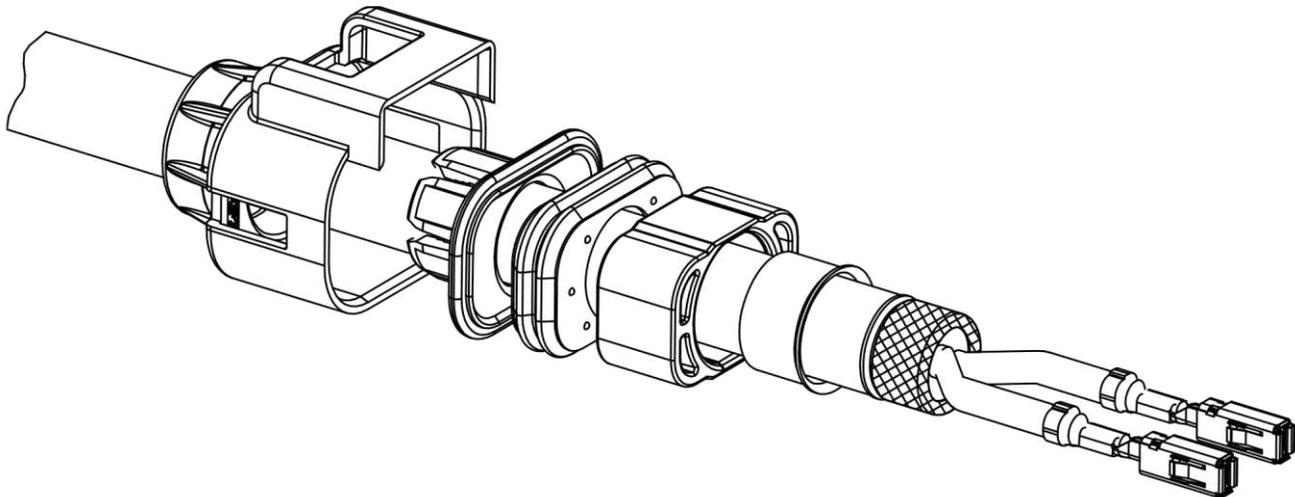

Figure 8
- 3.6.6.** Insert the receptacle contacts over the exposed conductor strands and crimp as shown in Figure 8. Refer to Application Specification 114-18148-1 or 114-18387 for specific crimp information. Locate the contact to be crimped in the appropriate tooling according to the instructions packaged with that